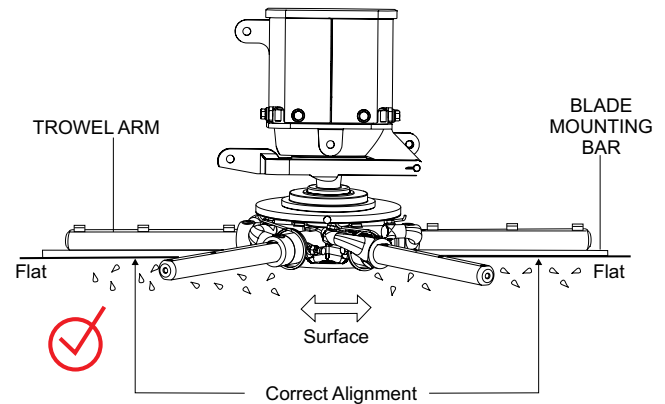

Figure 35. Correct Spider Plate Alignment
5. Figure 35 illustrates the "correct alignment" for a spider plate (as shipped from the factory).